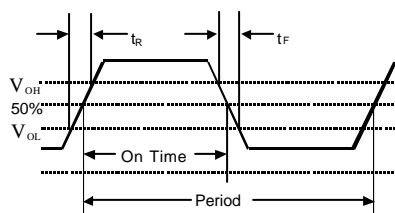
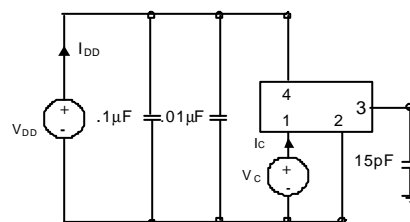

Figure 3. Output Waveform
Figure 4. Typical Output Test Conditions (25±5°C)
2. Figure 3 defines these parameters. Figure 4 illustrates the operating conditions under which these parameters are tested and specified. For  $f_o > 90\text{MHz}$ , rise and fall time is measured 20 to 80%.